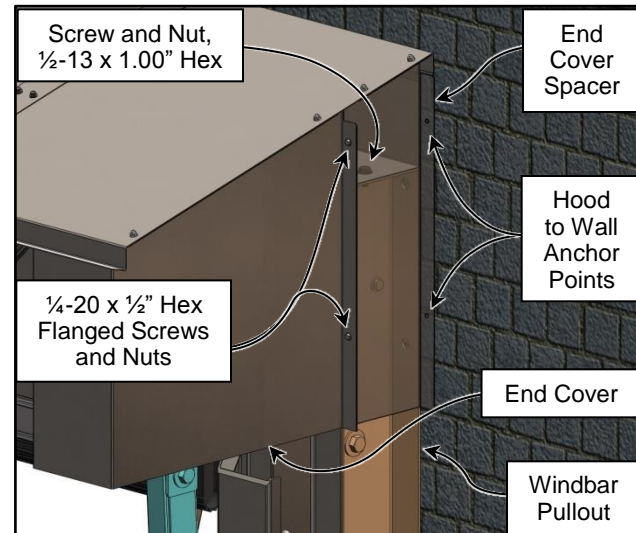

Figure 69
1. Fasten the Rear Windbar Hood Spreader to the Windbar Pullout as shown (See Figure 69)
2. Prior to attaching both the right and left head assembly end covers onto the front truss assembly, install both End Cover Spacers. Align the top of the spacers so they are flush w/ the Rear Windbar Hood Spreader. Anchor the End Cover Spacers to the wall. (See Figure 69)
3. Use $\frac{1}{4}$ -20 fasteners to secure the End Cover Spacers to the End Covers. (See Figure 69)